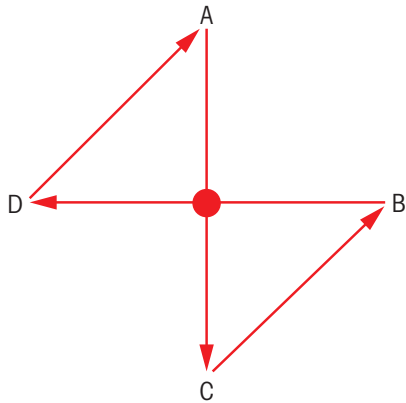

Figure 20 Adjustment cross
To achieve the fastest laser beam adjustment, it is best to work first in one axis and then the opposite direction. The screw adjustment cross shown in Figure 20 on page 49 outlines this process. The same procedure applies to either reflective or direct mode. Only small adjustments to the screws should be made. For longer optical pathlengths, smaller adjustments should be made. As a rule of thumb, for OPLs up to 3 m, turn screws by 1 turn each time, for 3–4m, 0.5 turns and for 4–6m, 0.25 turns. Continue this sequence of tightening steps until all 4 hex screws (A, B, C and D) are firmly tightened. In this manner, the laser dot remains in the middle of the target while the screws get progressively tightened.
- 4 With reference to the beam positioning pattern (see Figure 20 on page 49), place the laser spot in the middle of the target by hand holding the movable part of the cross pipe flange in one hand. This spot location will become the final position after all hex screws have been tightened. Insert one hex wrench in every one of the four hex screw heads.
<p>4 With reference to the beam positioning pattern (see Figure 20 on page 49), adjust one of the vertical axis alignment screws a few turns (top/bottom screws A, C).</p>